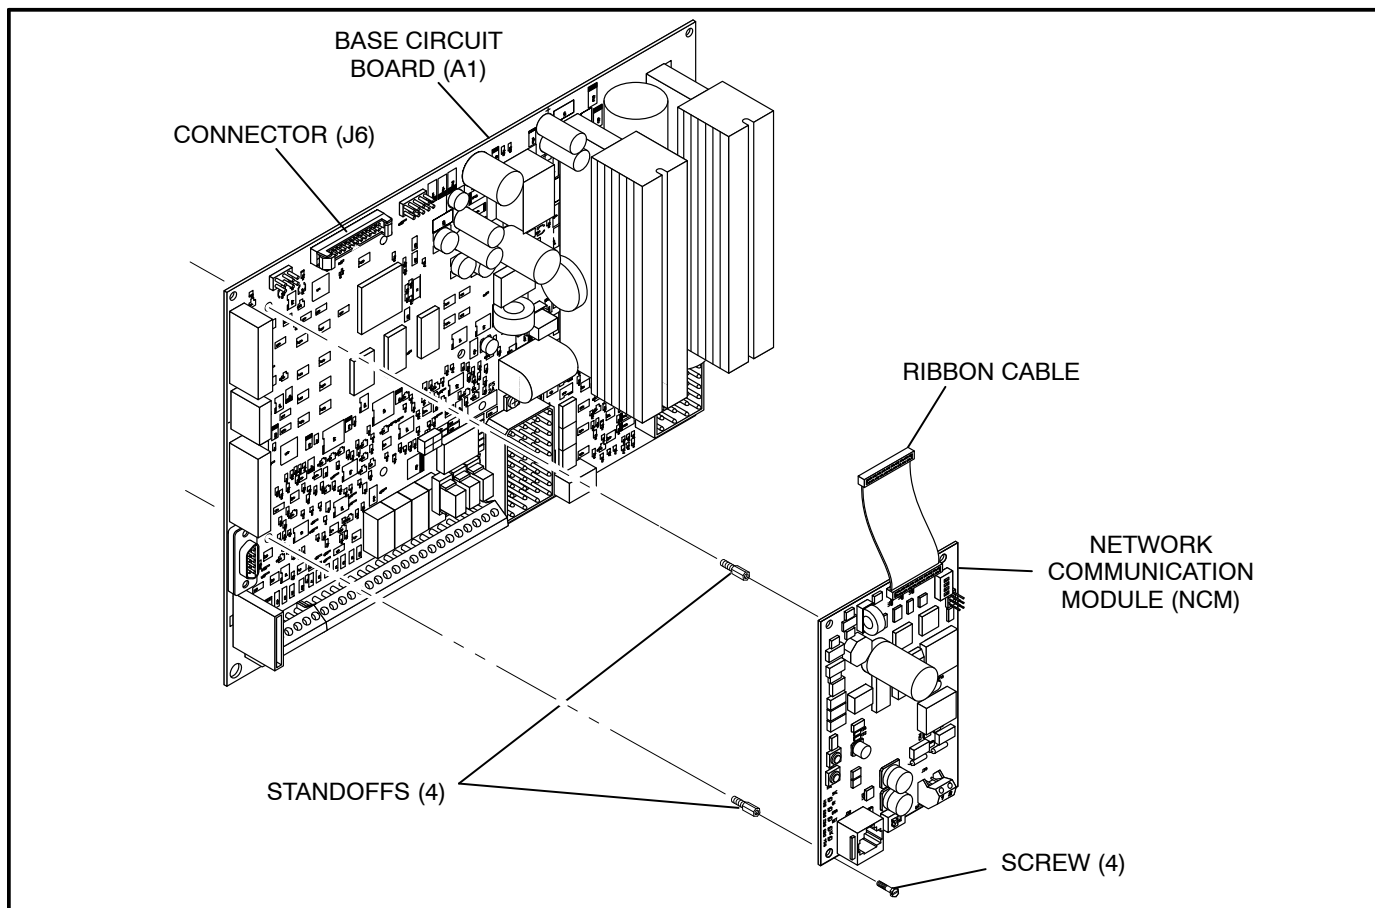

FIGURE 10-2. NETWORK COMMUNICATION MODULE INSTALLATION
7. Attach the four standoffs to the base circuit board (see Figure 10-2).